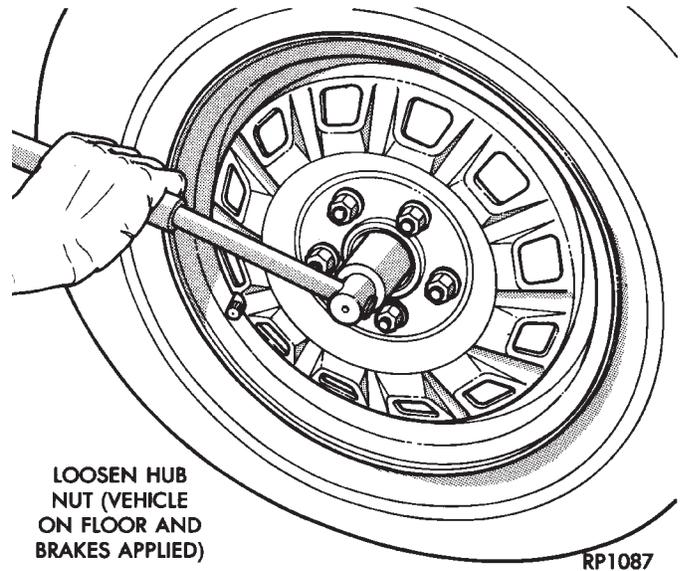
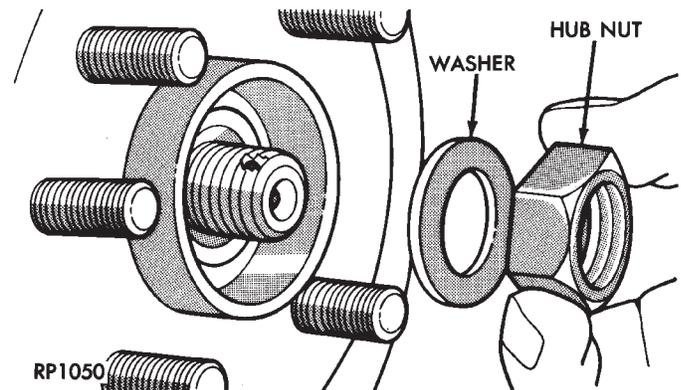

Fig. 4 Loosen Hub Nut & Wheel Nuts
Fig. 5 Remove Hub Nut & Washer Loosen Shaft
(2) Loosen hub nut and wheel nuts while vehicle is on floor and brakes applied (Fig. 4).
(3) Raise vehicle, see Hoisting in Lubrication and Maintenance, Group 0 of this service manual.
(4) Remove hub nut, washer, wheel and tire assembly (Fig. 5).